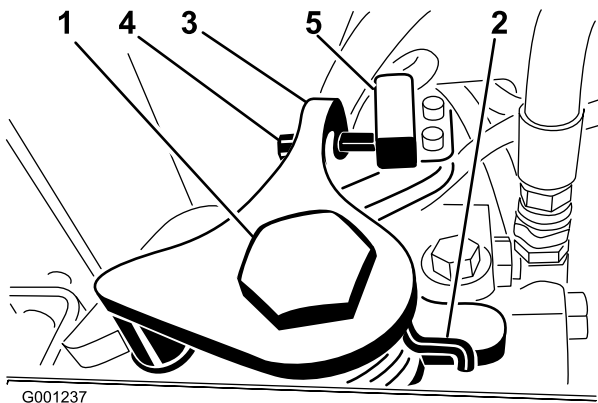

Figure 57
3. Loosen the retaining screw on the opposite side of the traction-adjustment cam (Figure 57).
9. Adjust the screw on the neutral-return arm (Figure 57) until the gap between the end of the screw and the switch contact is 0.23 to 0.38 cm (0.090 to 0.120 inch).